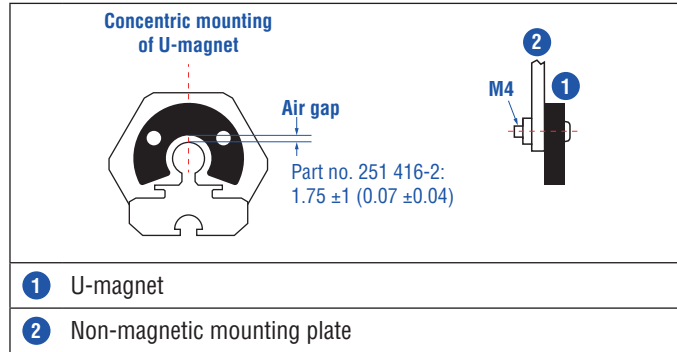
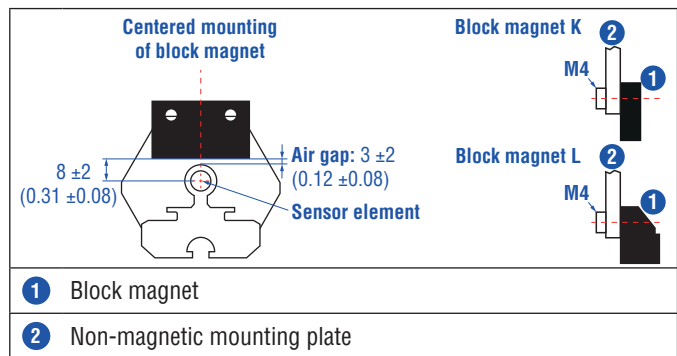

Fig. 35: Mounting of U-magnet (part no. 251 416-2)
Fig. 36: Mounting of block magnet (part no. 403 448)
- The maximum permissible air gap must not be exceeded (Fig. 35/Fig. 36).